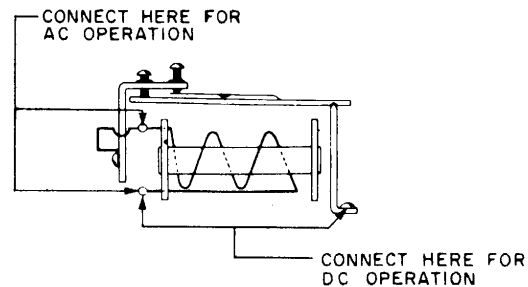

Fig. 3 – Connections to the Buzzer for AC and DC Operation
(1) Failure of the buzzer armature to vibrate steadily is usually due either to loose connections, broken leads, loose backstop or contact screws, or excessive or insufficient retractile spring tension. It will be necessary to balance the armature travel and the retractile spring tension against each other. In checking for any of the above conditions on the 4C buzzer, remove the cover.
- (2) When testing the 4C or 4F buzzer, connect the leads as follows. See Fig. 3.